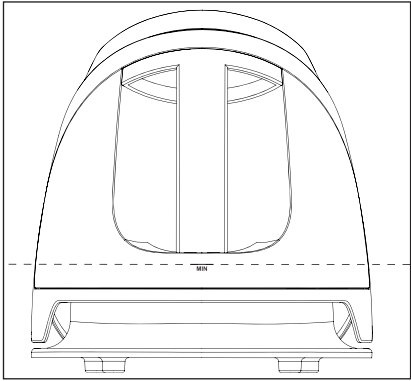

Fig. 1
- ▶ As soon as the fill level of the water tank 7 falls below the **MIN** mark (see Fig. 1), no more water is pumped into the steam chamber and the steam output stops.